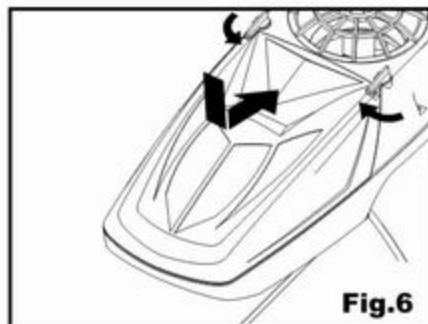

Fig.6
4. Replace **BATTERY DOOR** front first by aligning front edge of door and compartment, lowering rear of door into place and turning **LATCHES** to locked position (latches click onto little "bumps" in door). (Fig.6)